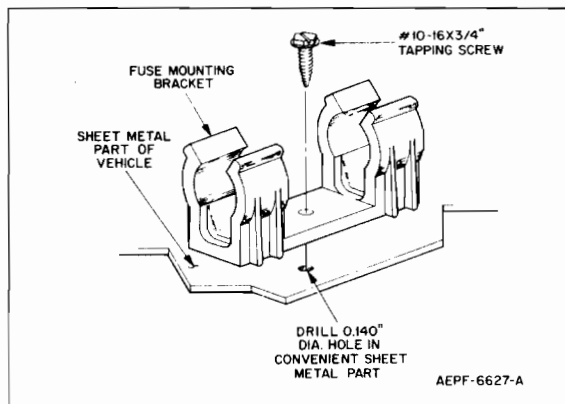

Figure 7.
- Refer to Figure 7 and install the fuseholder mounting bracket in the battery compartment to hold the in-line fuseholder of the red power lead.